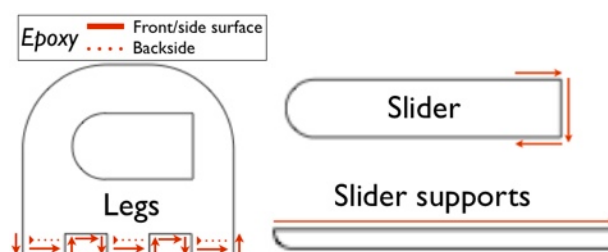

Figure 3: Epoxy placement
- e. Review where you will spread the epoxy, as depicted below \(Figure 3\).